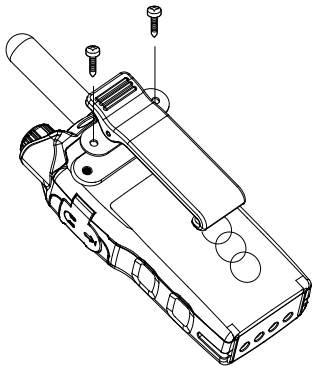

Figure 2
1. Align the two screw holes on the metal bracket of the belt clip with holes on the back side of the radio. Then secure the belt clip on the back side of the radio, as shown in Figure 2, and then secure the screws.